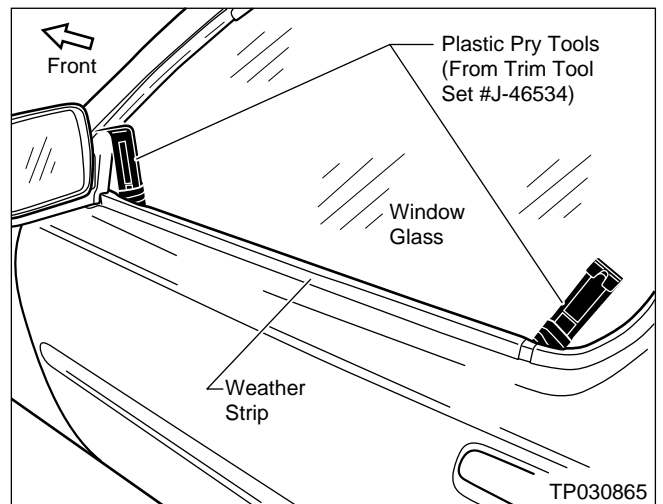

Figure 34
- Carefully insert the Plastic Pry Tools between the Window Glass and Weather Strip (see Figure 34).